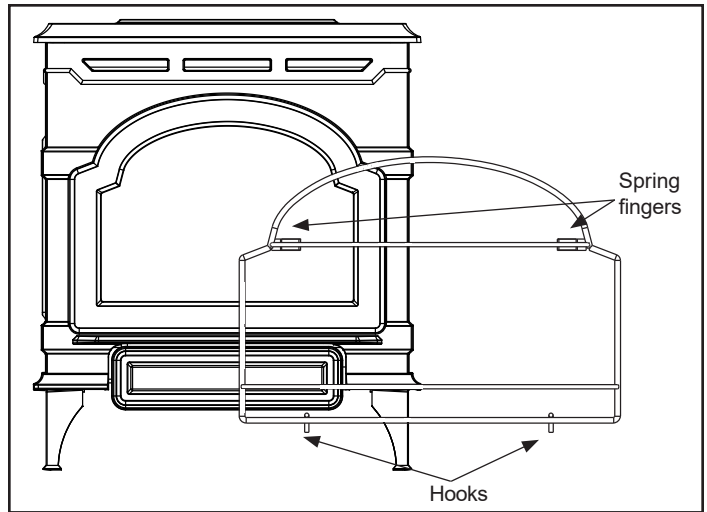

Figure 5.2 - Install safety barrier screen.
2. Place the two bottom hooks over the bottom edge of the stove opening, Figure 5.2.